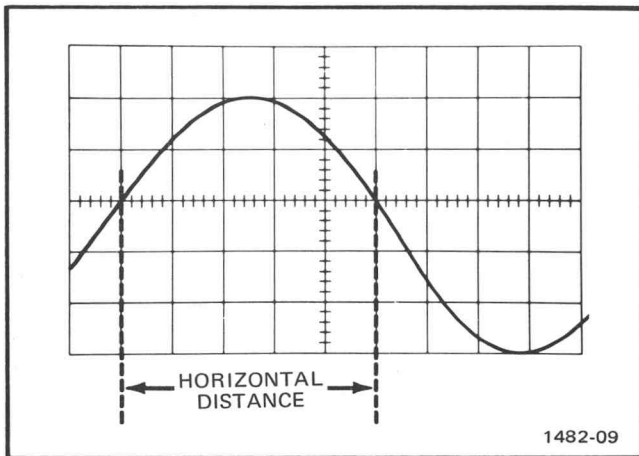

Fig. 6. Measuring the time duration between points on a waveform.
1. Using the graticule, measure the horizontal distance between the two events (see Fig. 6).